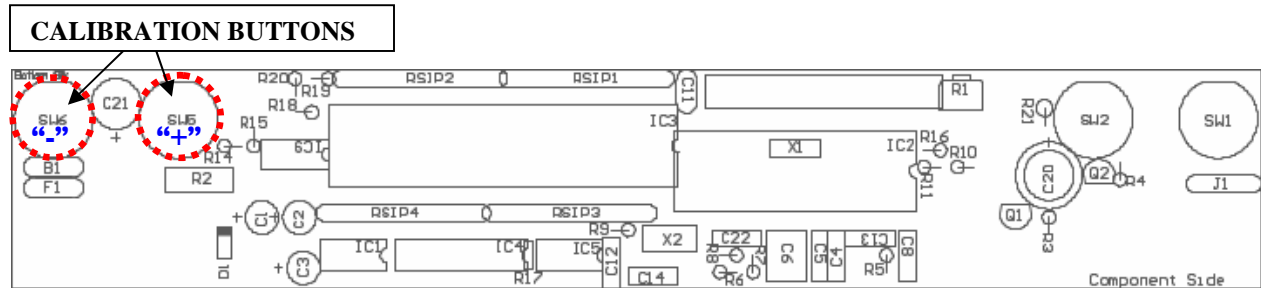

Figure 7: Calibration Button Diagram
STEP 1: (Figure 7) Remove the two (2) screws on the bottom of the display housing. Lift the display panel. The calibration buttons are located on the PC Board.